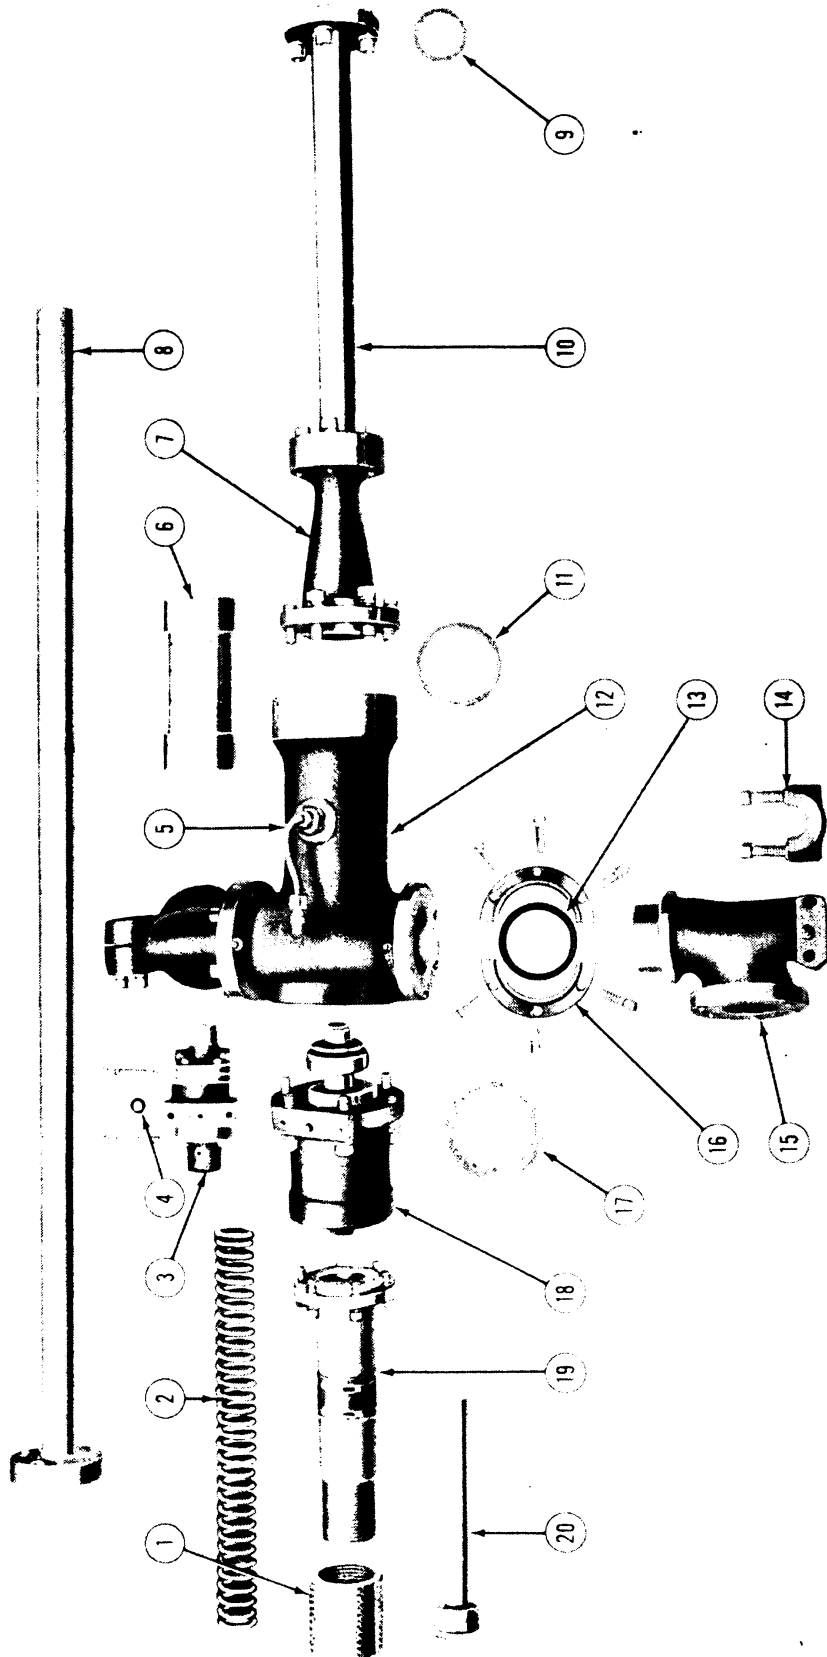

Figure 52—Flame gun (disassembled).
Legend for Figure 52
(1) The main control valve (figs. 52 and 54) has two functions: